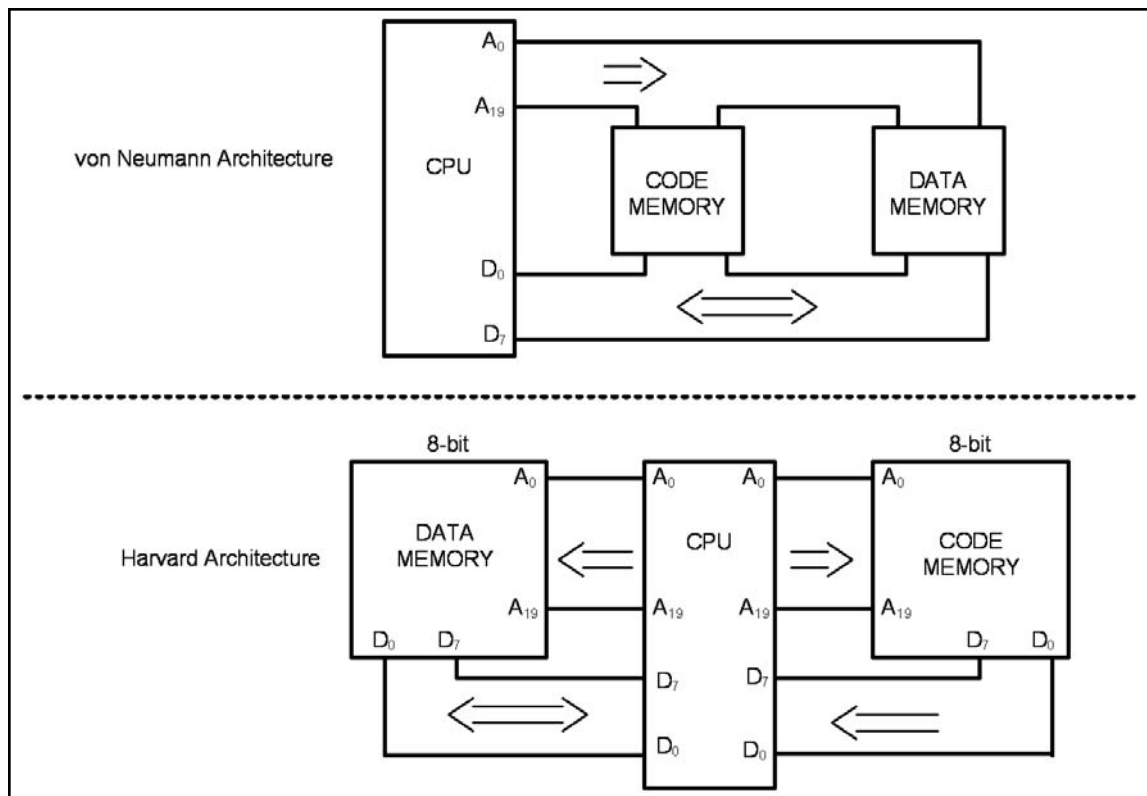

Figure 20. von Neumann vs. Harvard Architecture
Every microprocessor must have memory space to store program (code) and data. While code provides instructions to the CPU, the data provides the information to be processed. The CPU uses buses (wire traces) to access the code ROM and data RAM memory spaces. The early computers used the same bus for accessing both the code and data. Such an architecture is commonly referred to as von Neumann (Princeton) architecture. That means for von Neumann computers, the process of accessing the code or data could cause them to get in each other's way and slow down the processing speed of the CPU, because each had to wait for the other to finish fetching. To speed up the process of program execution, some CPUs use what is called Harvard architecture. In Harvard architecture, we have separate buses for the code and data memory. See Figure 20. That means that we need four sets of buses: (1) a set of data buses for carrying data into and out of the CPU, (2) a set of address buses for accessing the data, (3) a set of data buses for carrying code into the CPU, and (4) an address bus for accessing the code. See Figure 20. This is easy to implement inside an IC chip such as a microcontroller where both ROM code and data RAM are internal (on-chip) and distances are on the micron and millimeter scale. But implementing Harvard architecture for systems such as x86 IBM PC-type computers is very expensive because the RAM and ROM that hold code and data are external to the CPU. Separate wire traces for data and code on the motherboard will make the board large and expensive. For example, for a Pentium microprocessor with a 64-bit data bus and a 32-bit address bus we will need about 100 wire traces on the motherboard if it is von Neumann architecture (96 for address and data, plus a few others for control signals of read and write and so on). But the number of wire traces will double to 200 if we use Harvard architecture. Harvard architecture will also necessitate a large number of pins coming out of the microprocessor itself. For this reason you do not see Harvard architecture implemented in the world of PCs and workstations. This is also the reason that microcontrollers such as AVR use Harvard architecture internally, but they still use von Neumann architecture if they need external memory for code and data space. The von Neumann architecture was developed at Princeton University, while the Harvard architecture was the work of Harvard University.